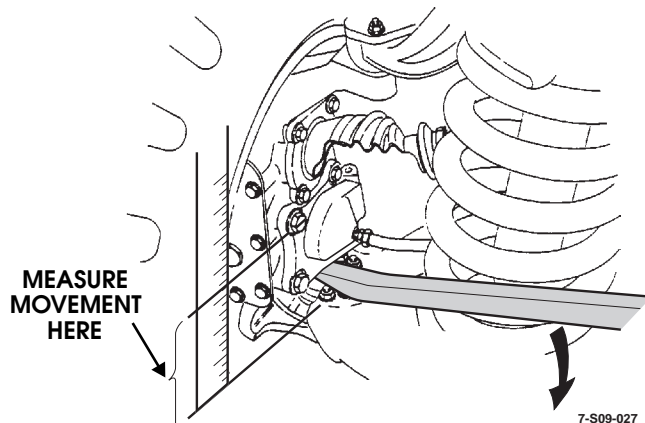

Figure 6-44.1 Lower Ball Joint Check Wear
7. Check lower ball joints: Support lower control arm with a jack or stand to unload lower ball joint. Place bar between lower arm at ball joint and geared hub and measure vertical play obtained by moving pry bar down (Figure 6-44.1). Maximum play should not exceed 1/8" (3.5 mm). Replace ball joint if end play exceeds the limit.